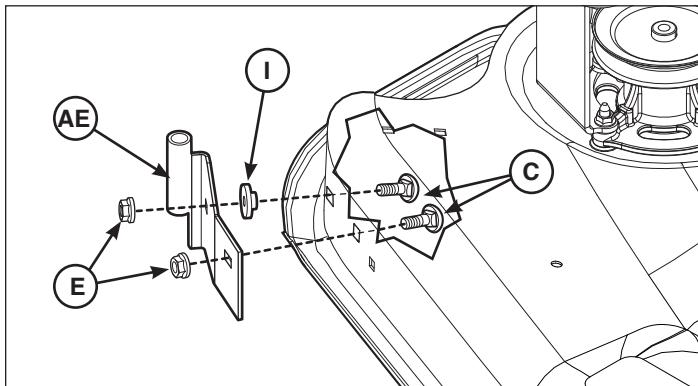

Figure 13
1. From inside of mower, insert carriage bolt (**C**, Figure 13) through holes closest to the right of the discharge opening.